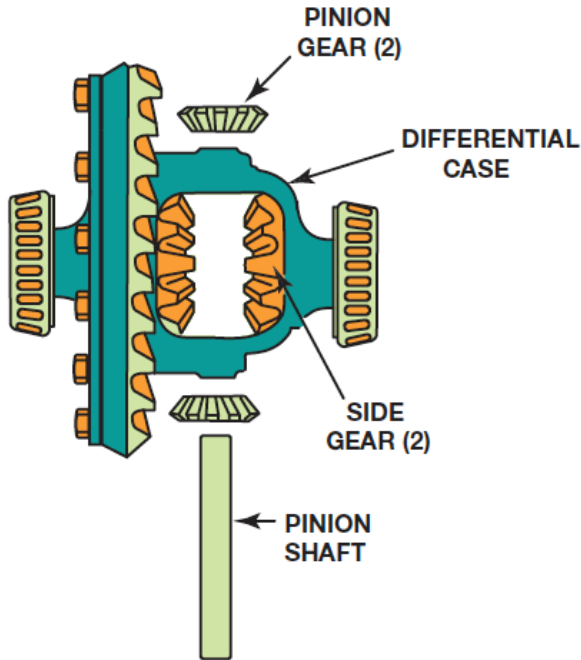

Figure 28. With the pinion shaft removed, the pinion gears can be rolled to the case windows and removed; then the side gears can be lifted out of the case.
STEP 3 Roll the pinion gears to the case window(s) and remove the pinion gears and thrust washers and the axle side gears and their thrust washers. Figure 28.